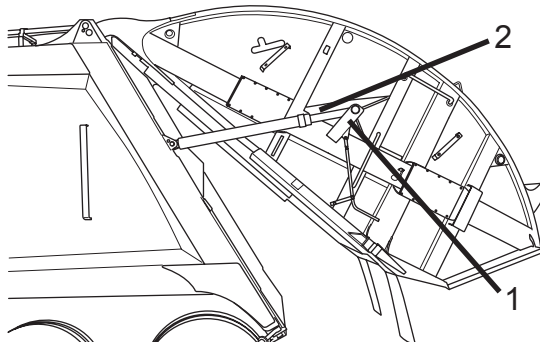

Figure 53
- Pull the prop lever (Figure 53, Item 1) down to remove the prop (Figure 53, Item 2) from around the cylinder rod.